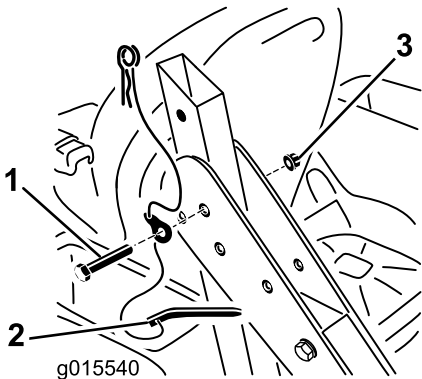

Figure 4
- 3. Attach the rollbar to the rollbar supports as shown in Figure 4. Leave the bolts just loose enough to allow the rollbar to freely pivot.